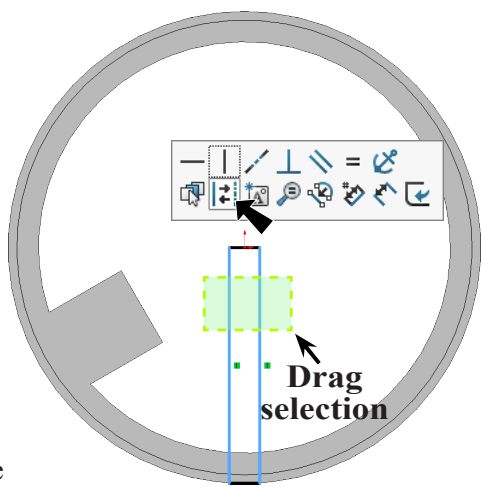

Fig. 71
Step 9. **Drag a “trend to left - more liberal” selection across both vertical lines of rectangle and click Construction Geometry**  on the context toolbar, **Fig. 71**.